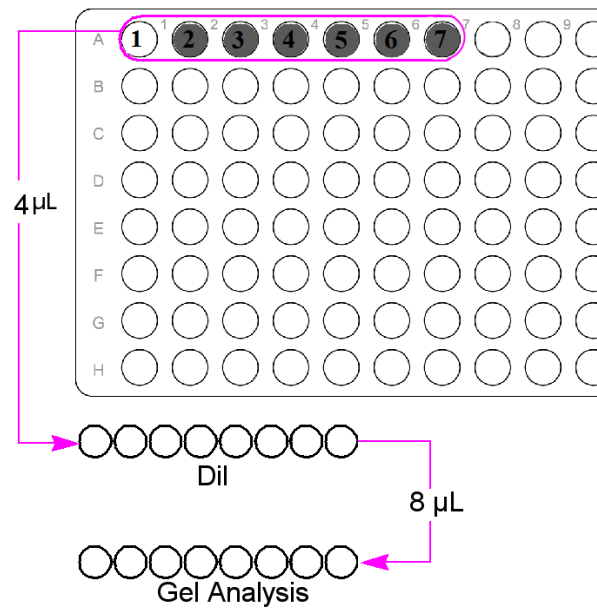

Figure 15 Transfer 2 μL fragmented product to strip tube
5. Add 4 μL of fragmented samples from plate to corresponding wells of strip tube “Dil” (Figure 15).